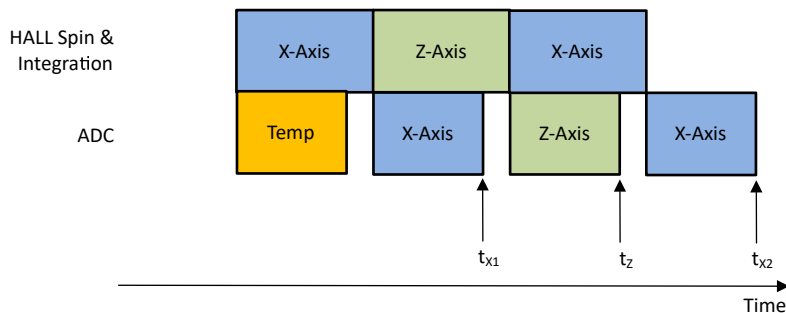

Figure 8-3. XZX Magnetic Field Conversion
In absolute angle measurement, application sensor data from multiple axes are required to calculate an accurate angle. The magnetic field data collected at different times through the same signal chain introduces error in angle calculation. The TMAG5173-Q1 offers pseudo-simultaneous sampling data collection modes to eliminate this error. Figure 8-3 shows an example where MAG_CH_EN is set at 1011b to collect XZX data. Equation 18 shows that the time stamps for the X and Z sensor data are the same.
- t_{x1} , t_z , t_{x2} are time stamps for X, Z, X sensor data completion as defined in Figure 8-3.